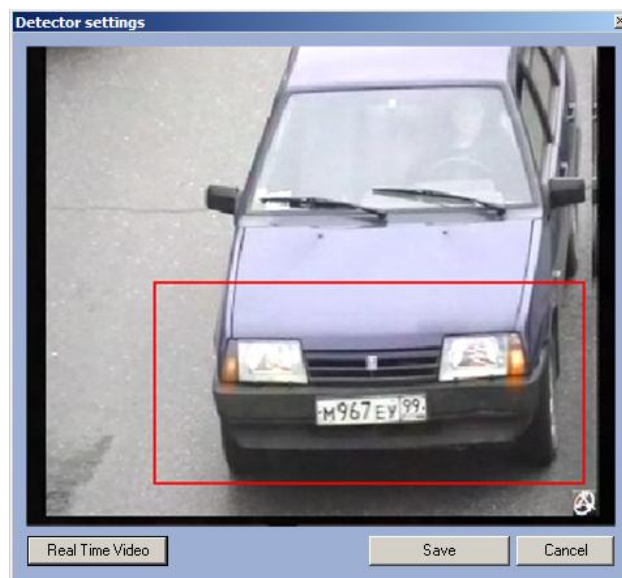

Fig. 7.2-27 Interface of detector settings (Still Frame mode)
- 4.2. At the appropriate moment, click the Still frame button and then hold the mouse while dragging it across the required area and click Save button (Fig. 7.2-27).